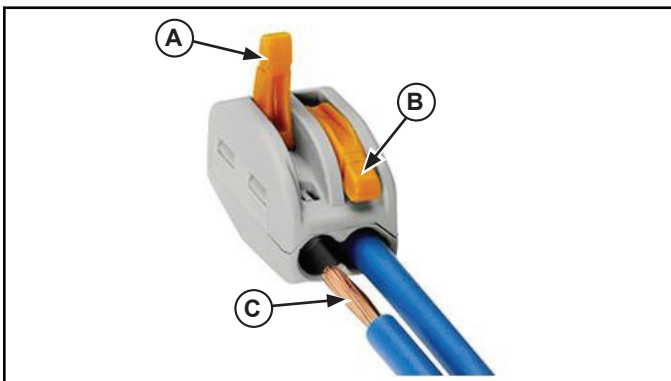

Figure 5. Lever Connector.
11. To use the lever connectors (See Figure 5):